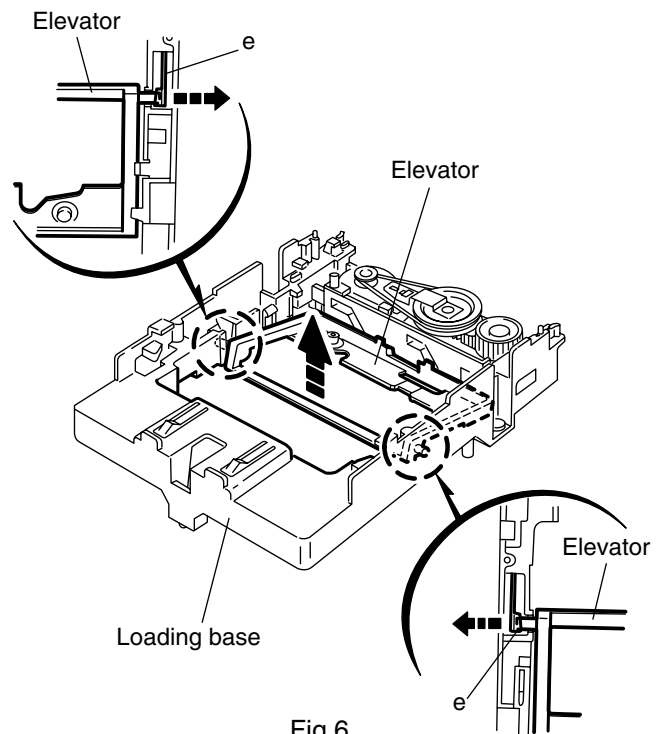

Fig.6
■ Removing the elevator (See Fig.6 and 7)